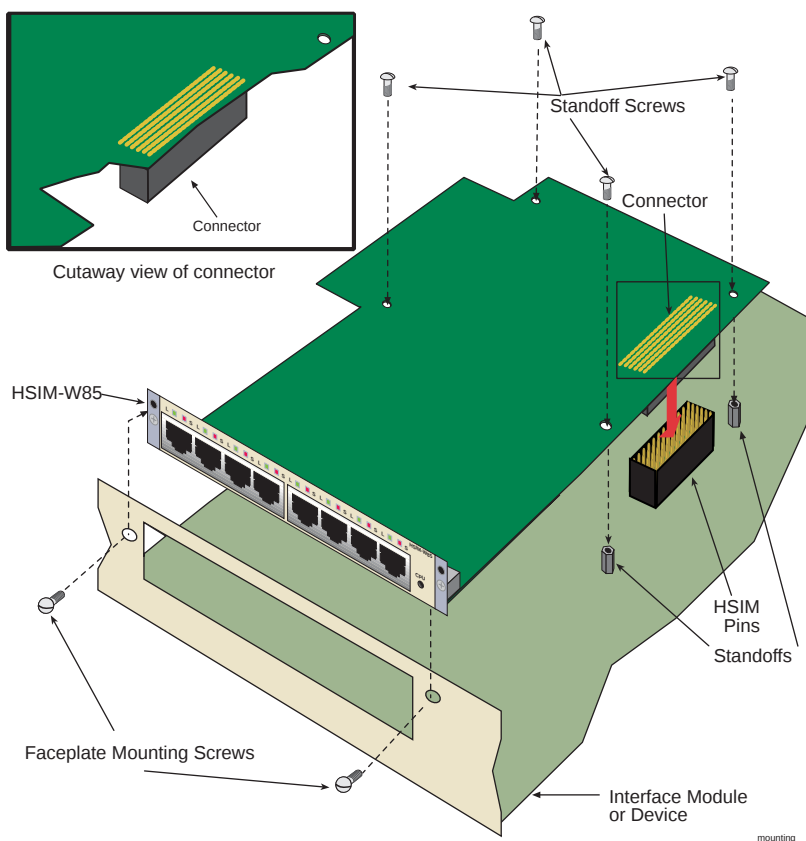

Figure 2-2 Installing the HSIM-W85
6. Refer to Figure 2-2 and place the HSIW-W85 behind the module faceplate.
6. Refer back to **Figure 2-2** and place the HSIM-W85 behind the standalone device faceplate.